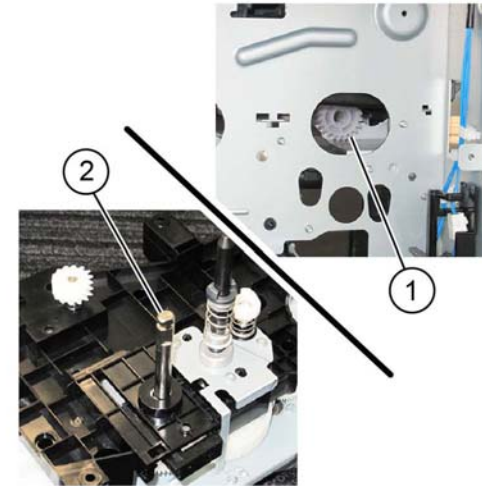

Figure 5 Gear alignment
2. When installing the drive assembly, align the gear (1) with the flat on the shaft (2), Figure 5.